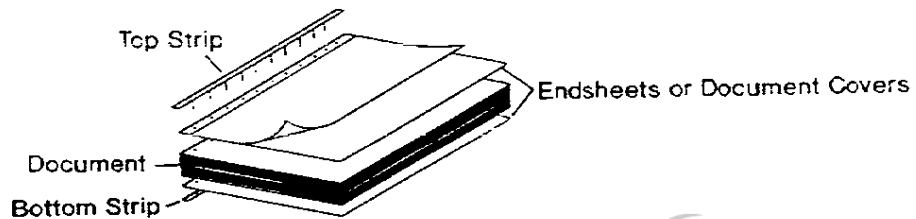

Figure 4-3
3. The maximum binding capacity of the machine is 3 inches. If document is to be enclosed in a soft cover, the front and back covers must be assembled as shown in Figure 4-3, and bound into the document at this time. If document is to be enclosed in a hard cover, VeloBind endsheets must be bound into the document at this time. The endsheets are placed on the front and back of the document with the printed release paper facing out, and the plain white sides facing the first and last sheets of the document (The hard cover will be attached to the document after the binding is completed.)